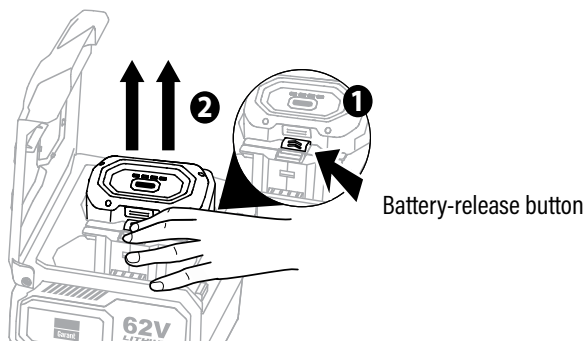

Fig. 5
2. To detach the battery pack, depress the battery-release button to disengage the battery from the latch. (1, Fig. 5)
3. Lift it out of the compartment. (2, Fig. 5)